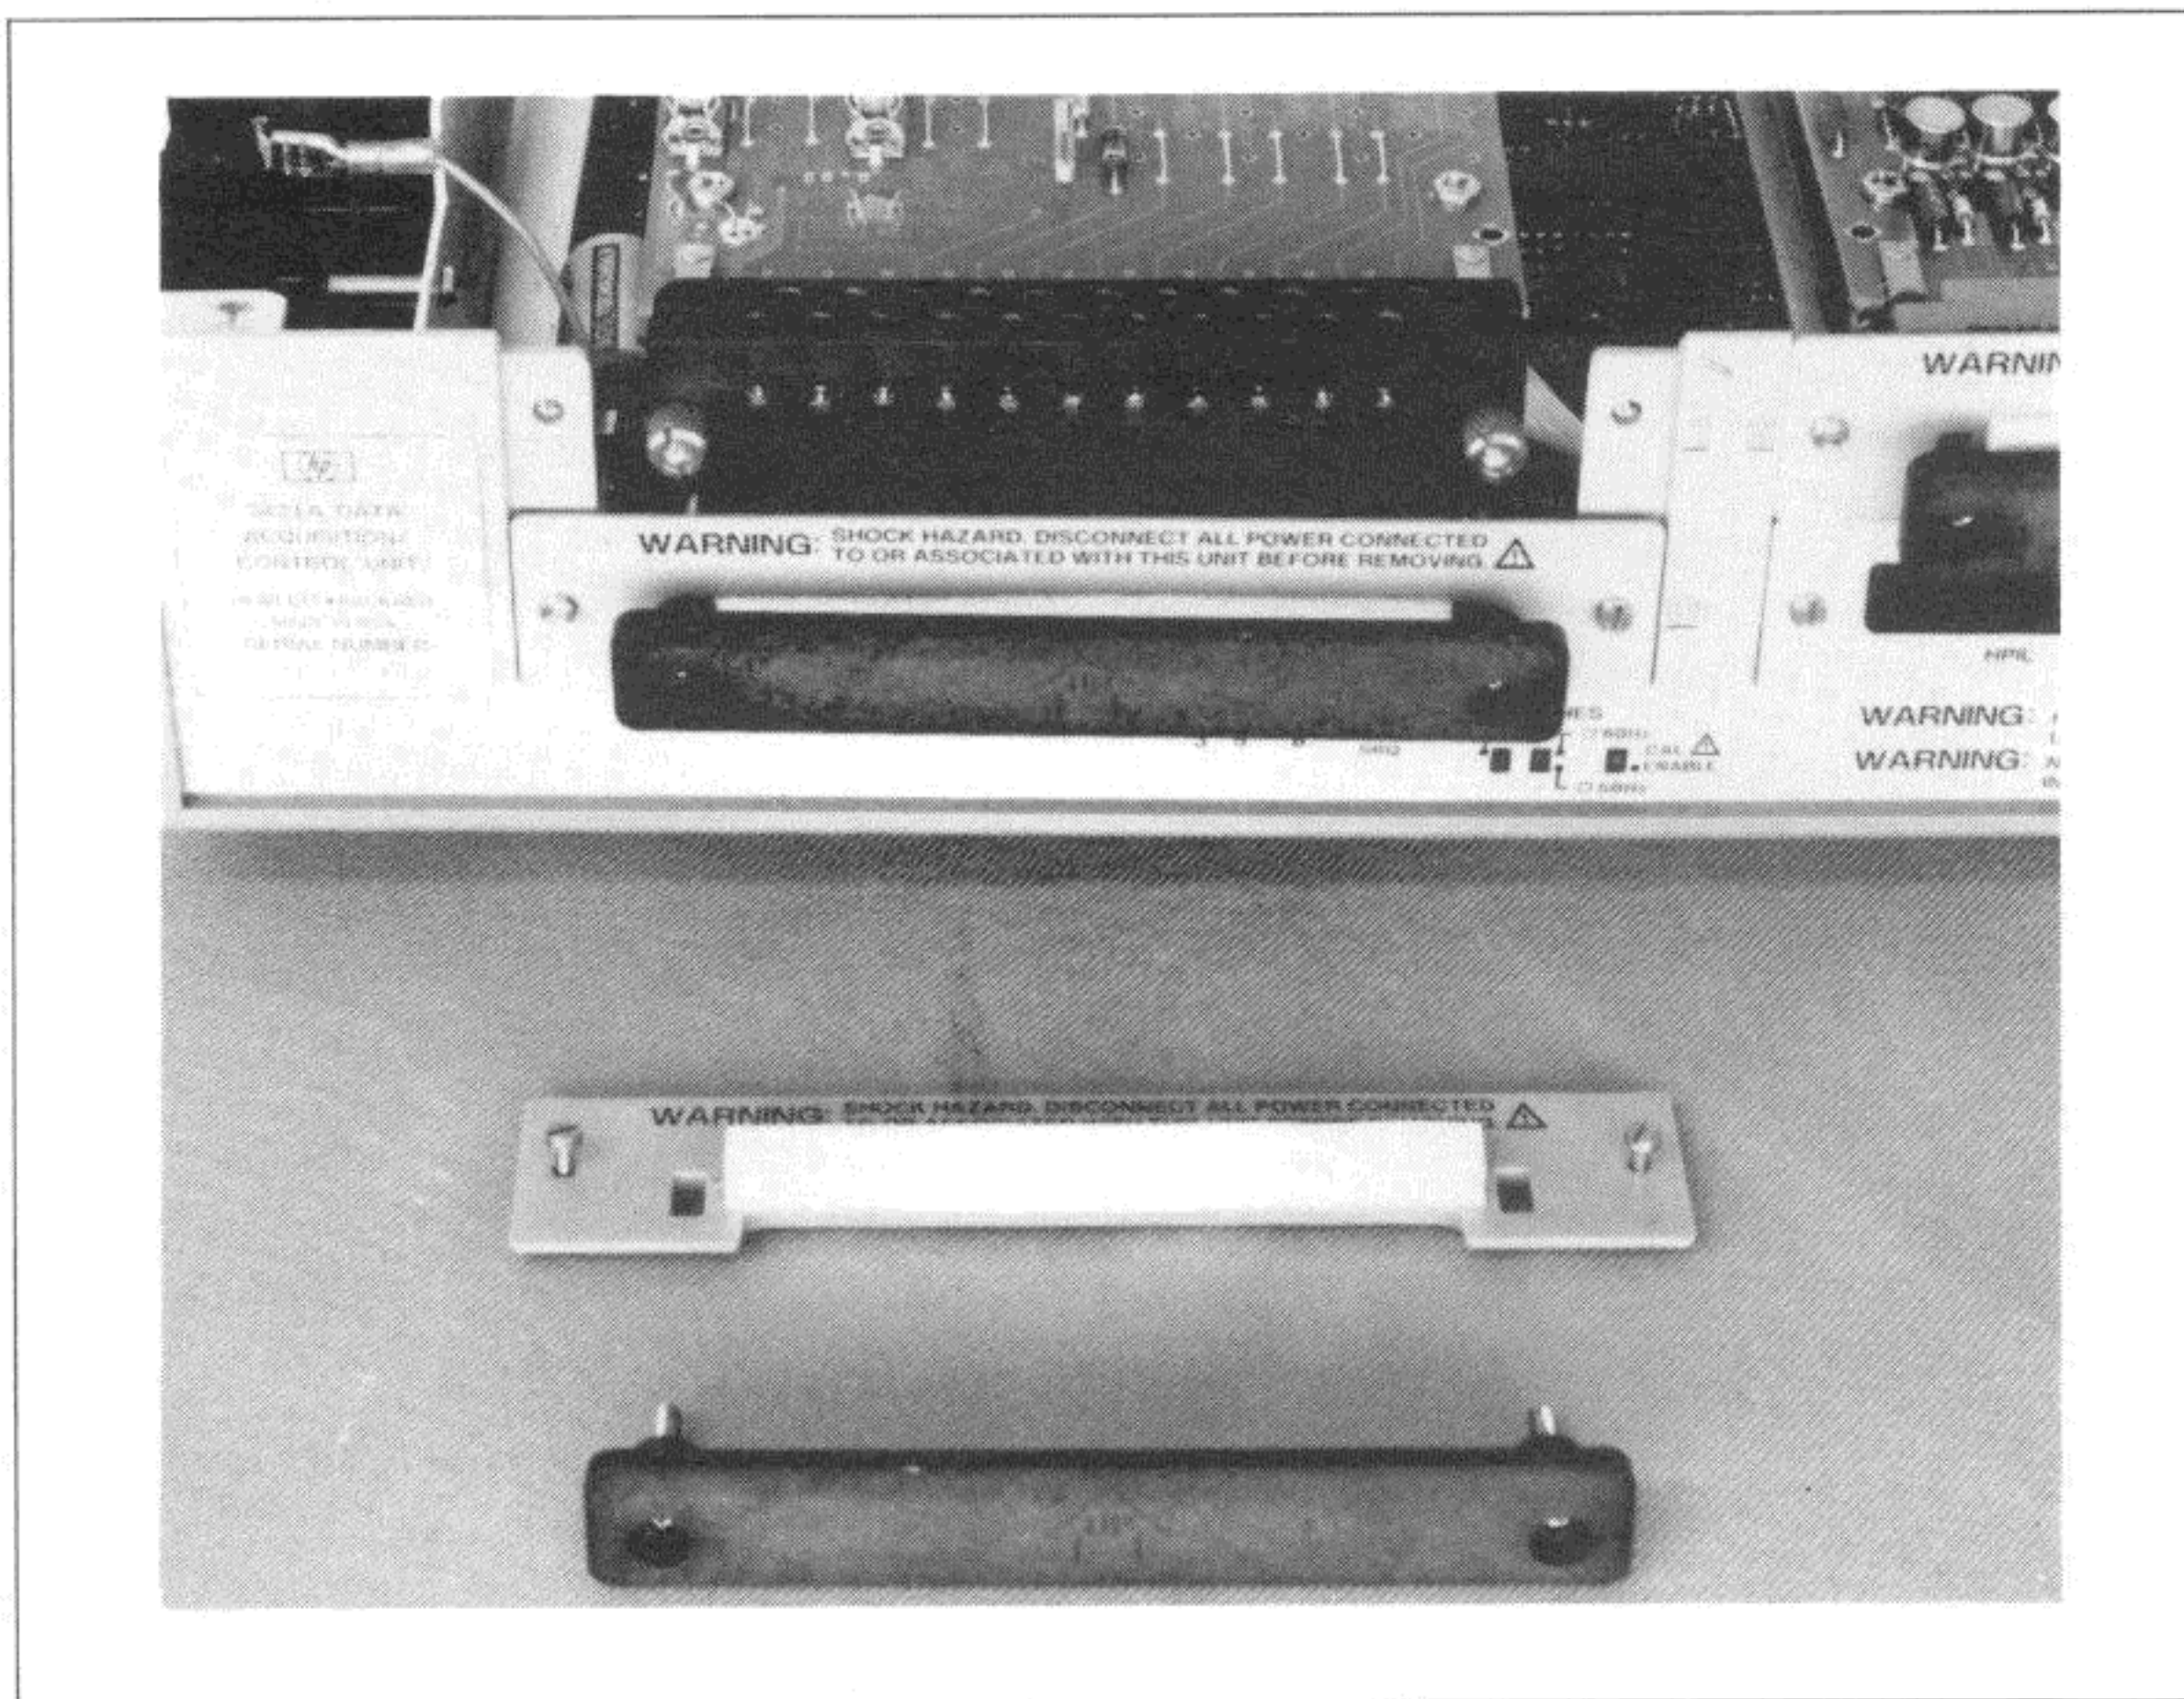

Figure 1-8-6. Remove Strain Relief and Safety Cover from Slot 1
1. Refer to Figure 1-8-6 and remove the two screws holding the black strain relief bar.